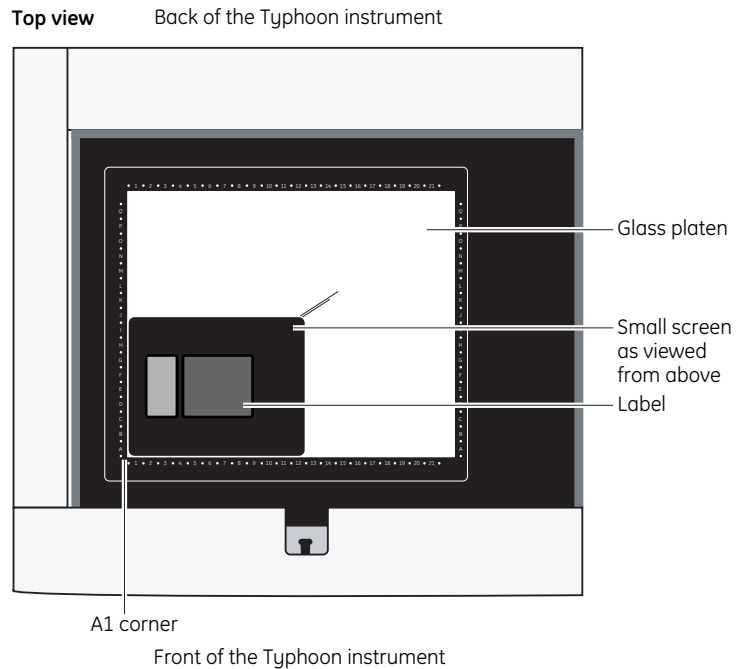

Fig 6-3. Load the screen onto the glass platen of the Typhoon instrument.
- 3 Use the grid markings that surround the glass platen to align the A1 corner of the screen with the A1 corner of the glass platen (fig 6-3).